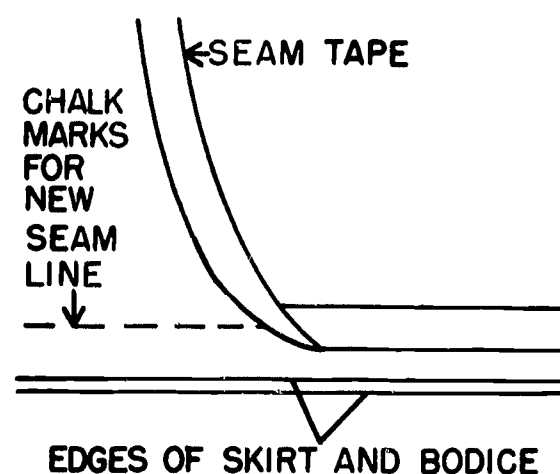

Figure 30.
11. Place the seam tape in position with the center of the tape on the seamline. If the seam tape was carefully removed when the seam was ripped, it may be used again. In cases where no tape was used, cut a piece the same length as the original waist measurement of the garment (see Figure 30).